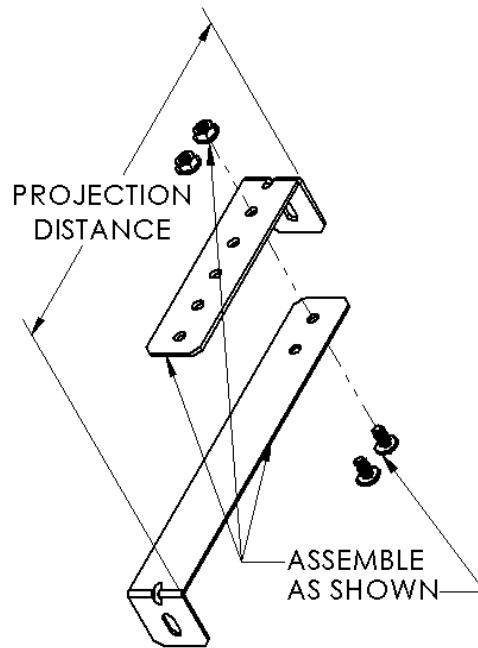
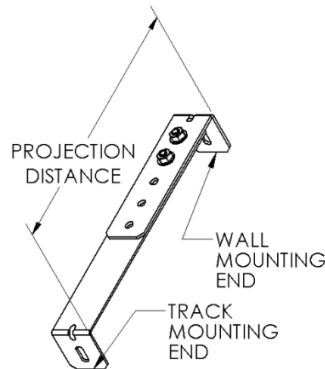

Figure 3 TRACK BRACKET ASSEMBLY
Figure 4 COMPLETED TRACK BRACKET ASSEMBLY (8 Req'd)
3. Assemble (8) eight Track Bracket assemblies to the same dimension as the Header Brackets by measuring to the outer edges of the brackets and installing (2) two sets of ¼-20 screws and nuts, provided, through corresponding holes. Set these Brackets aside for now. (Figure 3 TRACK BRACKET ASSEMBLY, Figure 4 COMPLETED TRACK BRACKET ASSEMBLY (8 Req'd))
3. Locate the Track Projection Mount Brackets, previously assembled, four (4) per track. Using the hardware in the Track Assembly, attach these brackets with the longer arm side toward the tracks at the four locations. These brackets should be mounted so that they are horizontally oriented, i.e. so that they are parallel to the floor (NOT vertically oriented /up and down). (Figure 4 COMPLETED TRACK BRACKET ASSEMBLY (8 Req'd))